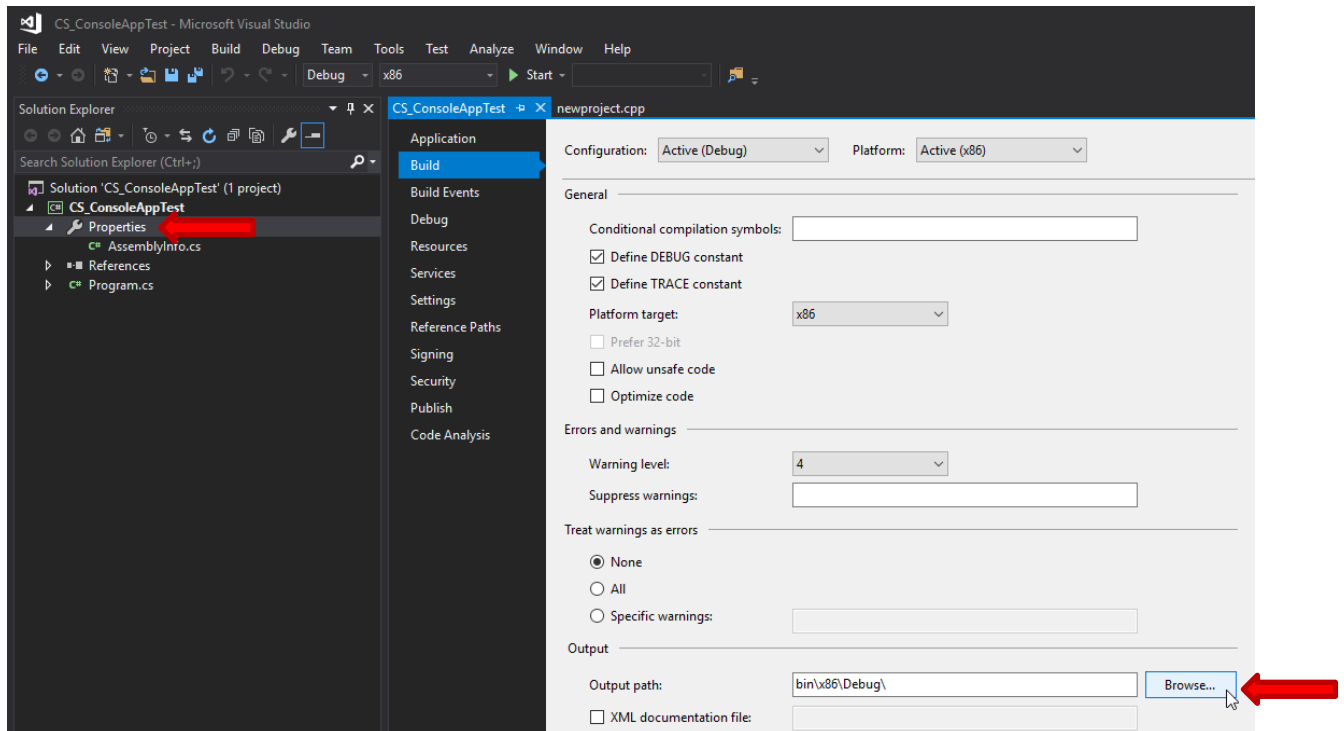

Figure 47 - VS2019 C# Build Directory
- 5) Build the solution by choosing Build – Rebuild Solution and navigate to the output folder, make sure that the c-motion.dll file ended up in the output directory, if not, paste them in that location so that the code can find them when running, this is needed for debugging code to run as well. See Figure 47 - VS2019 C# Build Directory